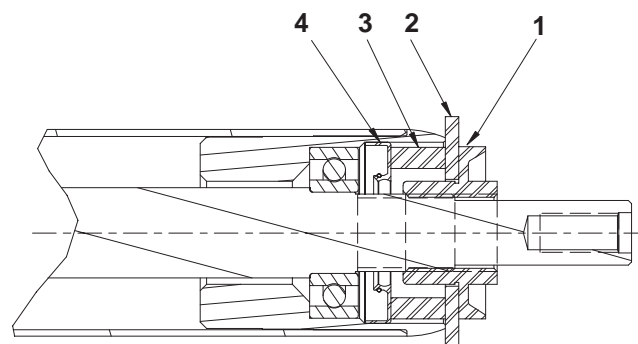

Figure 3
12. Install an assembly spacer, yellow assembly washer and nut onto each end of the roller (Fig. 3).
13. Tighten each nut until the yellow assembly washer bottoms out against the roller housing (Fig. 3).
14. Remove the nut, assembly washer and assembly spacer from each end of the roller (Fig. 3).